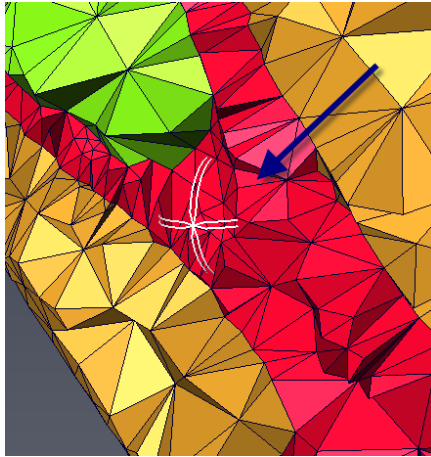

Figure 18.9: Clipping Plane Rotation Manipulator
- Click **Rotate** in order to show a dedicated manipulator located at the center of the plane (Figure 18.9). Select the manipulator with the left mouse button and rotate by moving the mouse while